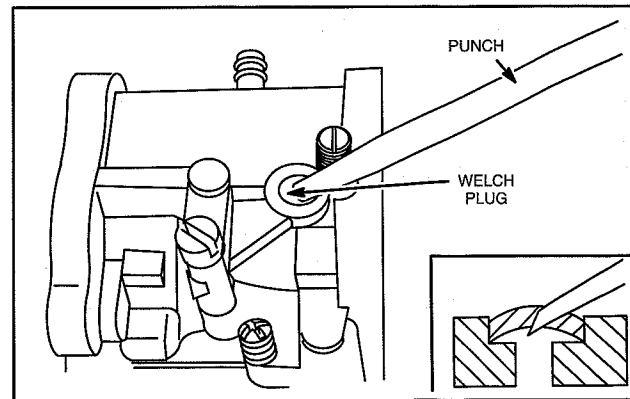

Fig. 14 – Remove Welch Plug
14. Remove transitional hole welch plug from top of carburetor, Fig. 14.